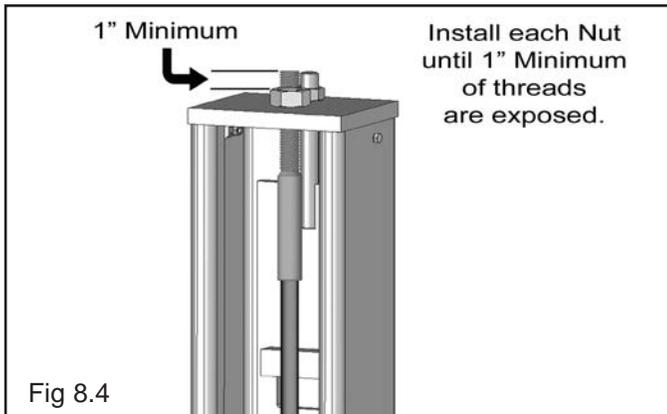

Fig 8.4
4. Tighten each Nut until there is at least one inch of threads protruding through the top of the nut. The Cables will remain loose until start up and final Cable adjustments are made. (See Fig. 8.4)